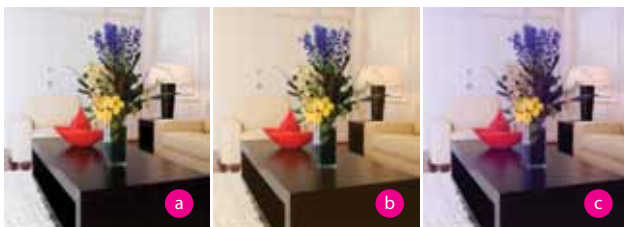

Fig.2 Colour rendering characteristics of 3 different light sources (a) Daylight = Ra 100, (b) Tungsten = Ra 100, (c) Single phosphor 'cool' white = Ra 58
**Colour rendering** (Figure 2) is the ability of a light source to give good colour representation of the colour it is illuminating. It is measured on a CRI (Colour Rendering Index) scale of Ra 0-100 with Ra 100 representing the best, which is equivalent to that provided by daylight. For diagnosis, accurate colour rendering of skin is essential.